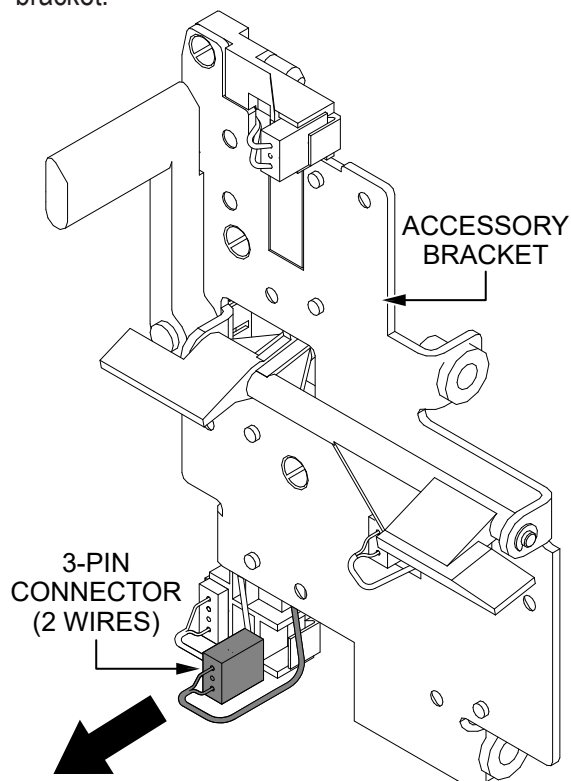

Figure 16. Pull Out 3-Pin (2-Wire) Connector
- Pull out the **3-pin connector with two wires** (Figure 16) from its stowed position in the accessory bracket.